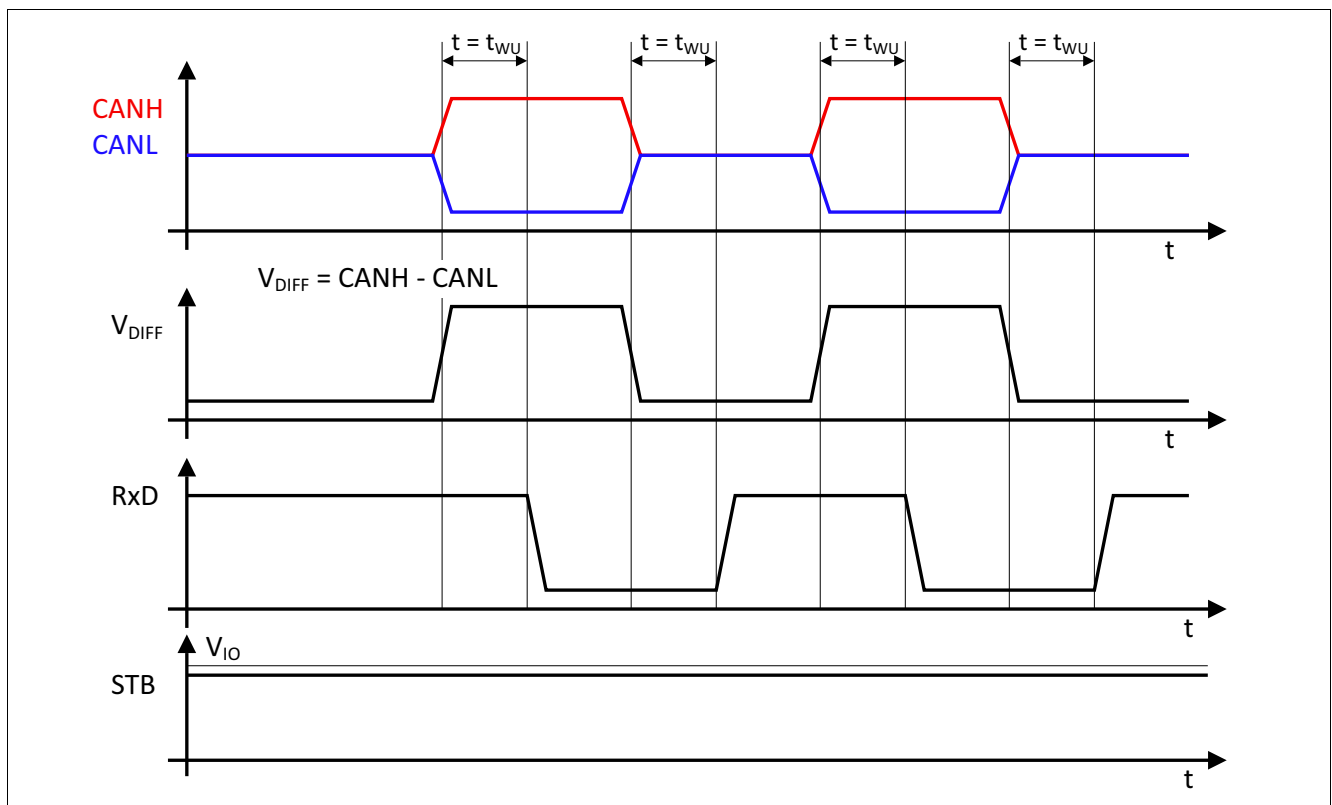

Figure 5 Wake-up pattern
- The RxD output is “high”, in case no wake-up signal on the CAN bus is detected (see Figure 5).
- The RxD output toggles according to the wake-up signal on the CAN bus (see Figure 5).
CAN bus signals, dominant or recessive, with a pulse width above the bus wake-up time $t > t_{wU}$ are indicated on the RxD output pin (see **Figure 5**).